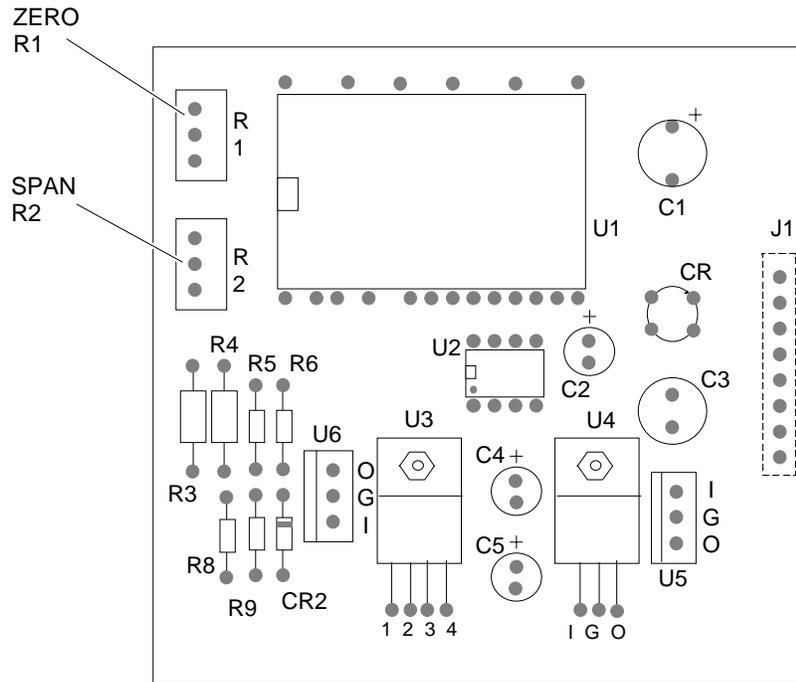

Figure 3-2. Isolated Current Output Board
4. On the Isolated Current Output Board, adjust ZERO control R1 (Figure 3-2) so that current output device indicates the low range-limit desired for the output range: 0 milliamperes or 4 milliamperes.
7. On the Isolated Current Output Board (Figure 3-2), adjust SPAN control R2 for reading of 20 milliamps on current output device.